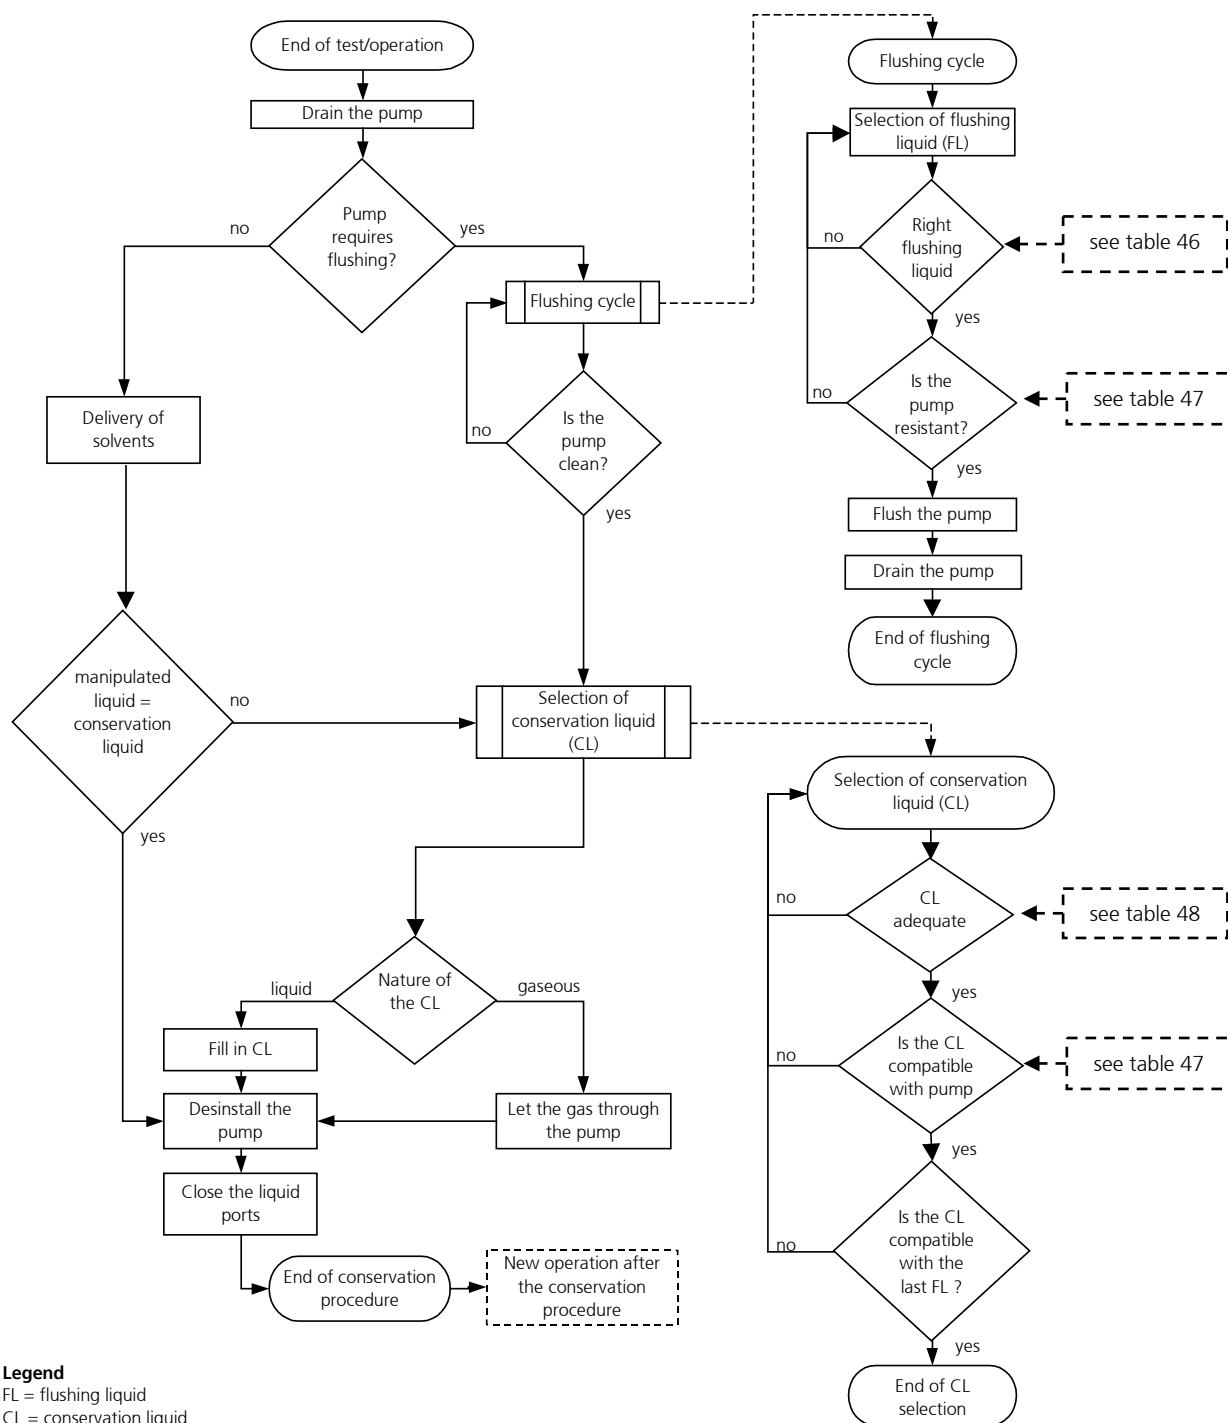

figure 42
*Remark:* This diagram is repeated as a part of the figure 42 (shutdown procedure of the micro annular gear pump).